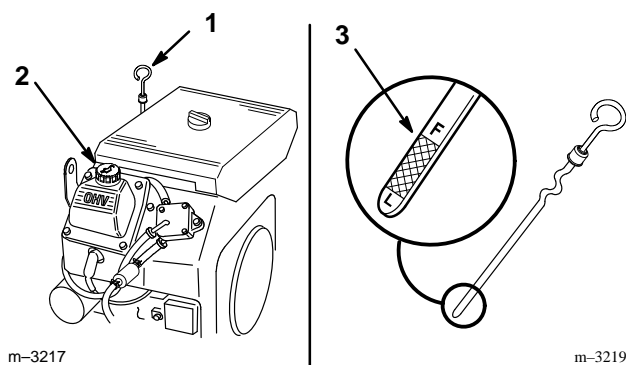

Figure 17
2. Clean around the oil dipstick (Fig. 17) so dirt cannot fall into the filler hole and damage the engine.
3. Unscrew the oil dipstick and wipe the metal end clean (Fig. 17).
4. Slide the oil dipstick fully into the filler tube, do not thread onto tube (Fig. 17). Pull the dipstick out and look at the metal end. If oil level is low, slowly pour only enough oil into the filler tube to raise the level to the "FULL" mark.
5. Slowly pour approximately 80% of the specified amount of oil specified, page 26, into the filler tube (Fig. 17). Now check the oil level; refer to Checking Oil Level, page 27. Slowly add additional oil to bring to "FULL" mark on dipstick.